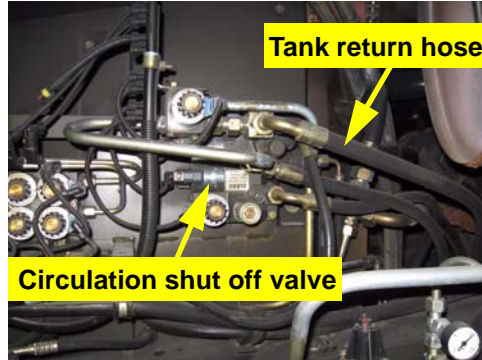
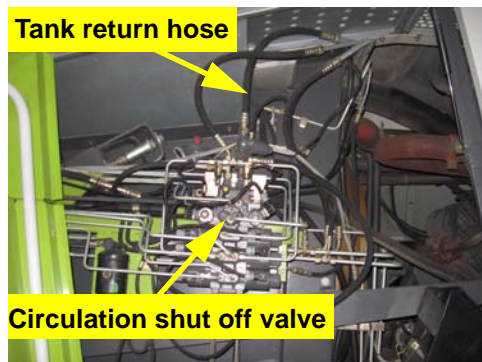

Figure 3a: Tank location
Figure 3c: Tank location for 491 series models
To install on 492 and 493 series models, please refer to figures 3a and 3b. To install on 491 series models, please refer to figure 3c.
- a. The automated steering block will return tank flow via the tank hose located at the circulation shut-off valve (Figure 3a).